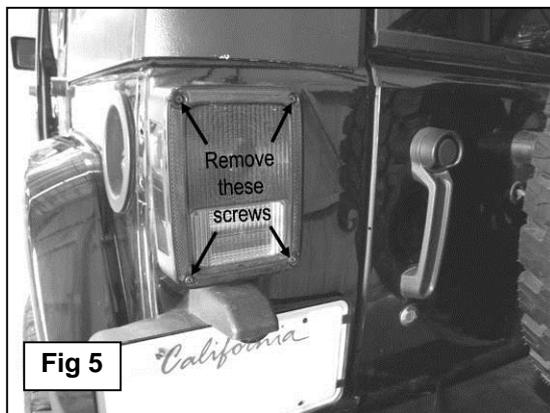

Fig 3
3. Remove the passenger side (4) factory outer windshield hinge bolts. Locate the passenger side Front Leg, **(B)** and apply the Foam Gasket as described in Step 1. Align the holes on the lower section of the Front Leg with holes on the windshield hinge and slide the tube into the Cross Bar. Secure the Front Leg to the vehicle using (4) 8-1.25mm x 35mm Hex Bolts, (4) 8mm Lock Washers and (4) 8mm x 24mm x 2mm Flat Washers. Proceed to secure upper section of the Front Leg to Front Cross Bar using the included (1) 8mm x 65mm Allen Bolt, (2) 8mm Small Flat Washers and (1) 8mm Nylon Lock Nut, **(Figure 3)**.